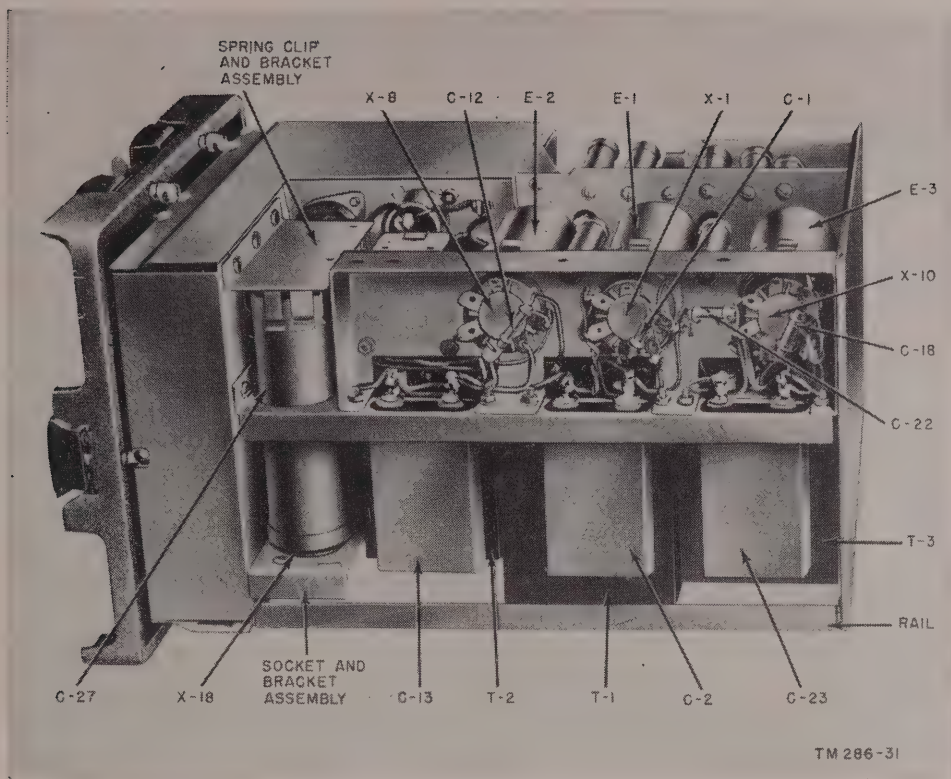

Figure 46. Power Supply PP-112/GR, bottom view of chassis.
d. VIBRATORS. The three vibrators (E-1, E-2, and E-3) are located on the right-hand side of the power supply chassis (fig. 46). To remove a vibrator, pull straight upward with-